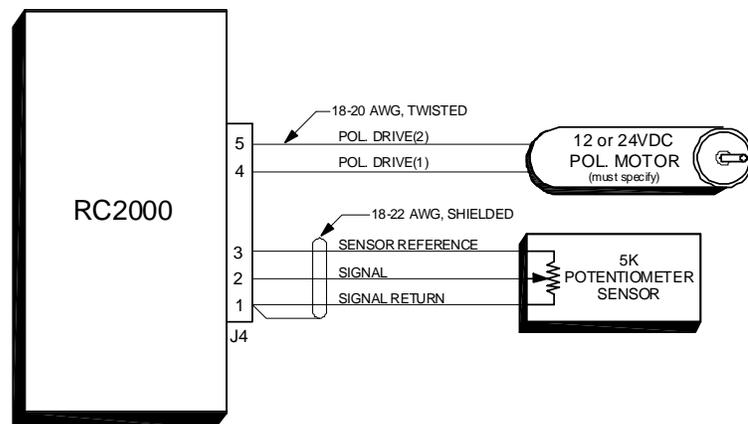

Figure 3.4 Polarization Control
1. Connect the polarization/sensor assembly as shown in figure 3.4. Note that shielded cable is required for the sensor and that the shield **MUST** be connected to the GROUND terminal (1) at the back of the controller and **MUST NOT** be connected to anything at the antenna. Research Concepts, Inc. can supply cable for installation. RCI part number CBL-2_16-3_22A contains 2 16 gauge conductors for carrying the motor drive current and a shielded triple with a drain wire in a single UV resistant-direct burial jacket. Contact RCI for details.
2. The CONFIG mode item *Rotating Feed Present?* must be set to YES (1). Activate CONFIG mode and use the SCROLL DOWN key to bring up the *Rotating Feed Present?* item and key in a 1 followed by the ENTER key. (If the *Rotating Feed Present?* item is not accessible in CONFIG mode, the Expert Access Flag has been reset. If this occurs, perform a system reset as described in section 3.1.)